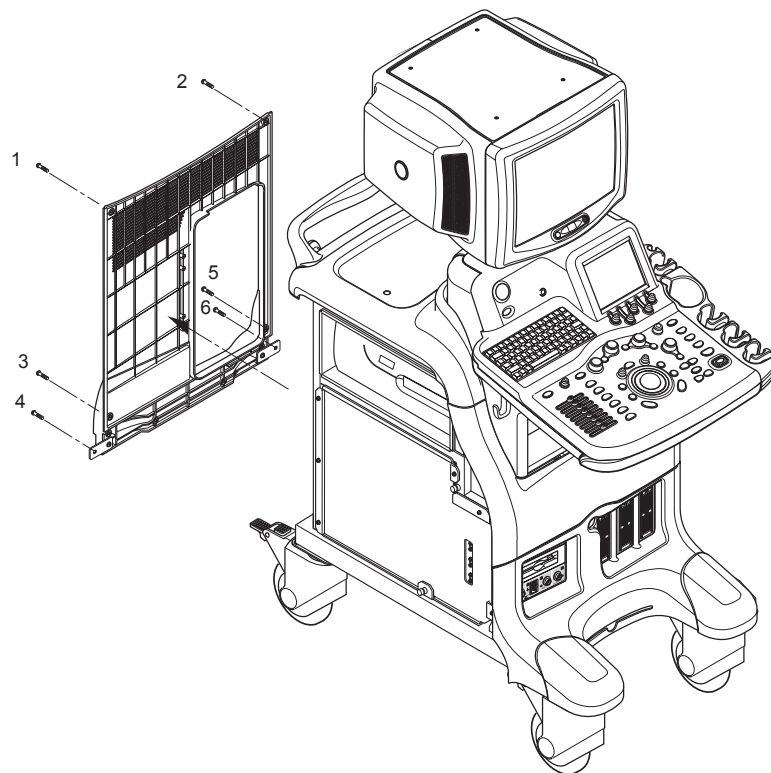

Figure 8-78 Removing the rear cover
- 4.) Remove the Rear Cover. Refer to section Figure 8-78 on page 33.